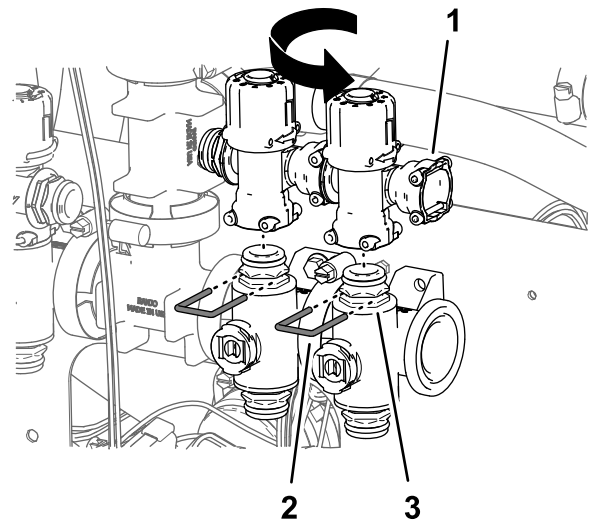

**Figure 102**
- Rotate the bypass valves 180° and assemble them onto the quick disconnect fittings of the section valves (Figure 102).
- Secure the bypass valves to the section valves with the retainers (Figure 102) that you removed in step 4.